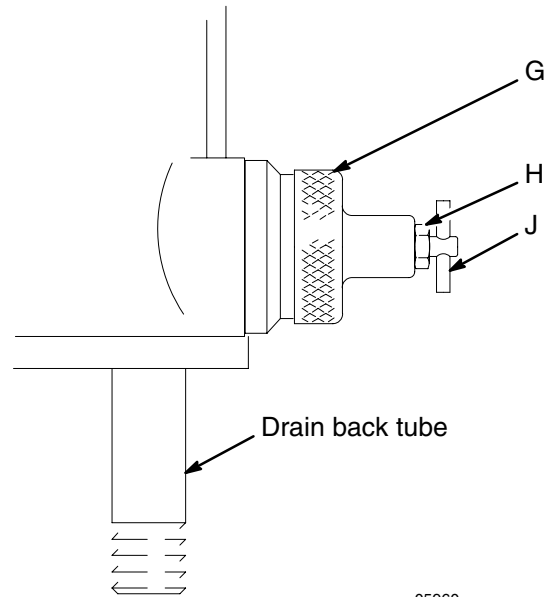

Fig. 3
To set the pump Relax-A-Valve (G) in the automatic position, loosen the locknut (H), turn the T-handle (J) clockwise as far as possible, and then back-off the handle four turns and tighten the nut. See Fig. 3.